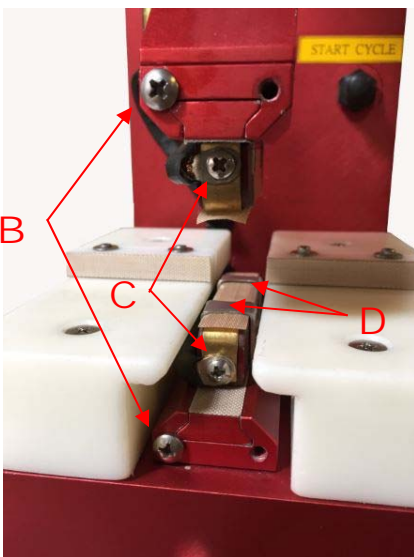

Figure 6
1. Follow "Replacing Heating Block Assemblies" steps (Figure 6).